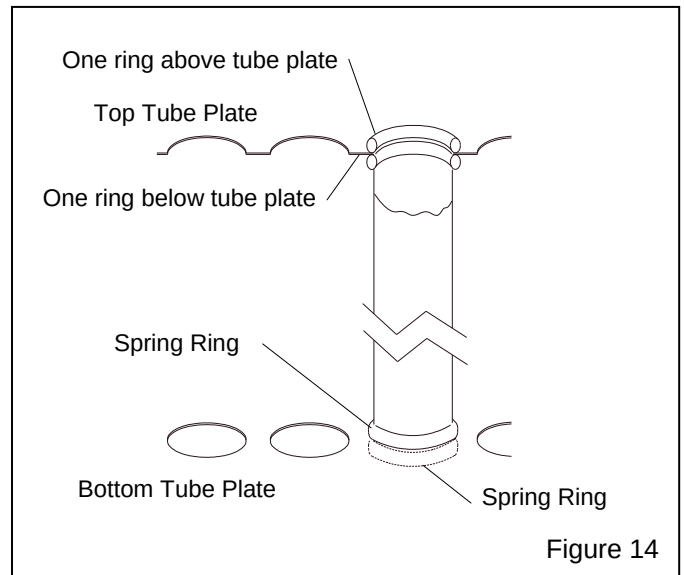

Figure 14
6.4 Dry Filter Tube Replacement, Figure 14
6.4.1 Replace damaged filters immediately. Remove the old filters by pulling the spring rings off the bottom and top tube plates. Working from the back to the front, install one filter at a time. To install new filters, form the end of the spring ringed tubular filter into a shallow "c" shape, push the filter far enough into the hole of the top plate to allow one spring ring to snap into place above the tube plate and the other to snap into place below it. See the illustration in Figure 14.